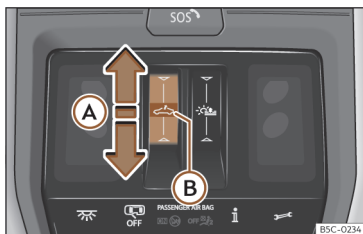

Fig. 90 On the headliner: glass roof button.
- Automatic movement: slide your finger back over the functional area  >>> **Fig. 90 (A)**.
- Before approx. 5 seconds after activation of the anti-trap function, slide your finger forward over the functional area 🖐 >>> Fig. 90 (A) and keep pressed until the sunroof is fully closed.